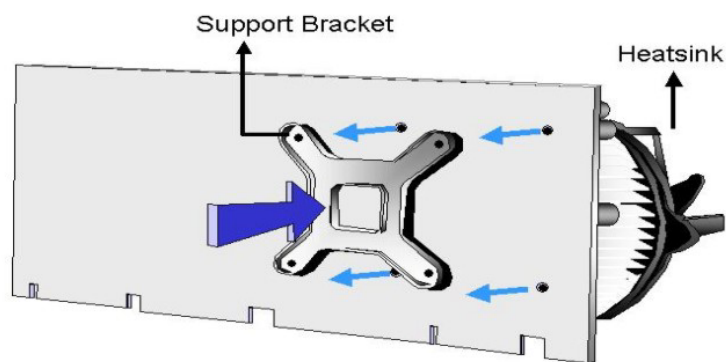

Figure 4-6: Securing the Heat sink to the PCB Board
- Step 4:** Secure the cooling kit. From the solder side of the PCB, align the support bracket to the screw threads on heat sink that were inserted through the PCB holes. (See Figure 4-6)